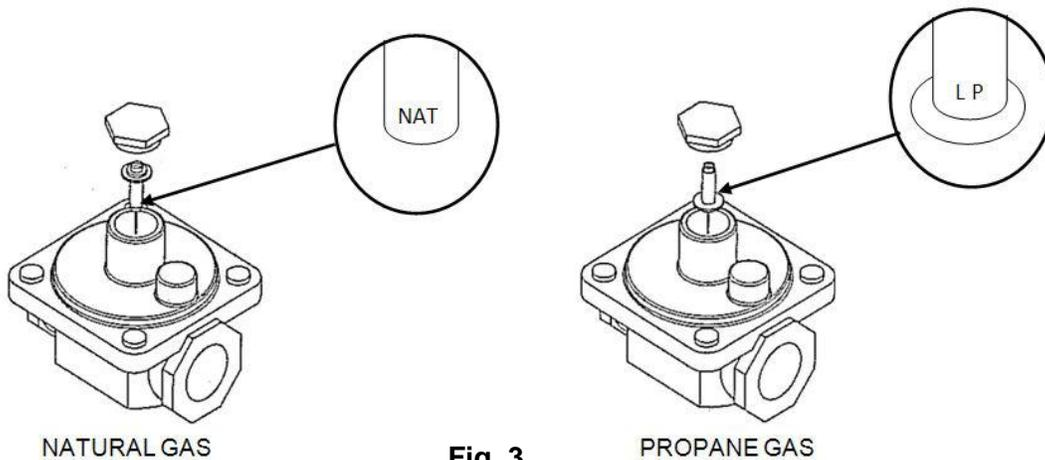

Fig. 3
2. Set the regulator to 10" W.C. by inverting the regulator spring plug. See Fig. 3.